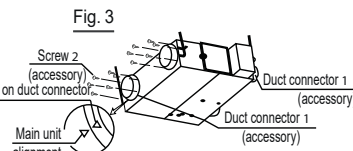

Fig. 3
- (2) Adjust the height of the unit.
- (3) Use a level to make sure that the unit is level.
- (4) Tighten the upper nut to fix the main unit in place.
- (5) Attach the duct connector 1 (accessory) with the screw 2 (accessory) to the indoor and outdoor sides (4 locations each). When attaching, make sure the alignment marking on the main unit matches up with the triangle ▽ on the duct connector. (Refer to Fig. 3)
- (6) Remove the maintenance cover, and remove the tape from the air filter and heat exchange element.
- (7) Attach the maintenance cover.